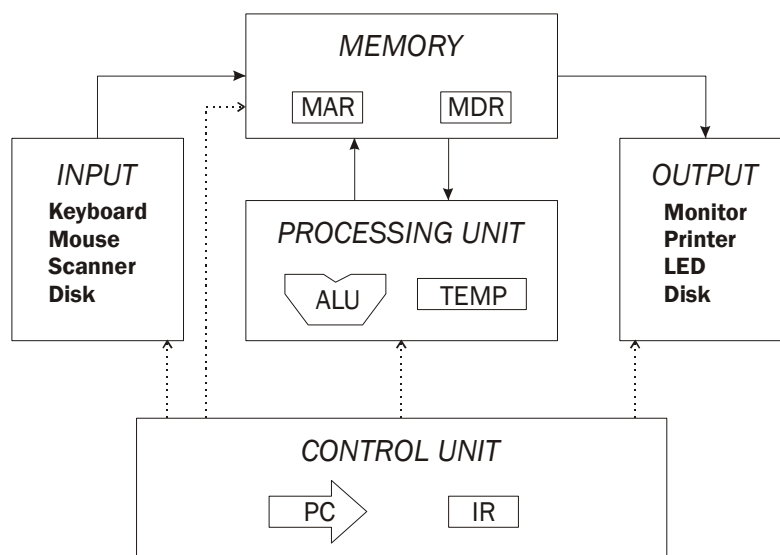

Figure 2. Von Neumann Architecture
The desired FBCPU RTL design is in Von Neumann architecture. Figure 2 gives the Von Neumann Architecture.
- Registers (Temp variable under Processing Unit in Figure 2)